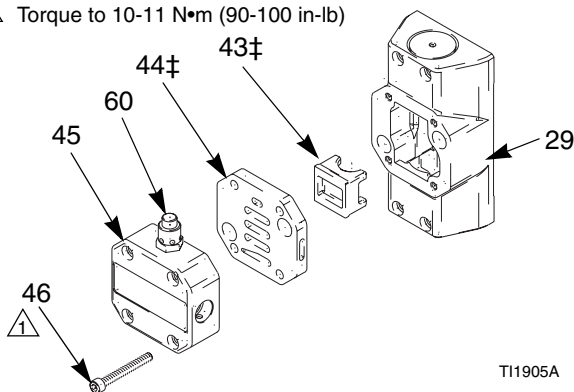

FIG. 6 Air Valve Cover, Seat, and Cup
2. Remove the screws (46).
3. Remove the air valve cover (45), seat (44), and cup (43). See FIG. 6.
1. Install the o-rings (51‡) on the bushings (50) and install one bushing in the housing (29). Install the piston (40‡) and the other bushing. Install the setscrews (69) to secure.
2. Place the cup (43‡) into the housing (29) so it rides on the air valve piston. See FIG. 6.
3. Install the seat (44‡) and cover (45) as shown. Make sure the holes in the seat align with the holes in the housing (29), and note the orientation of the relief valve (60) in the cover. Torque the screws (46) to 10-11 N•m (90-100 in-lb).